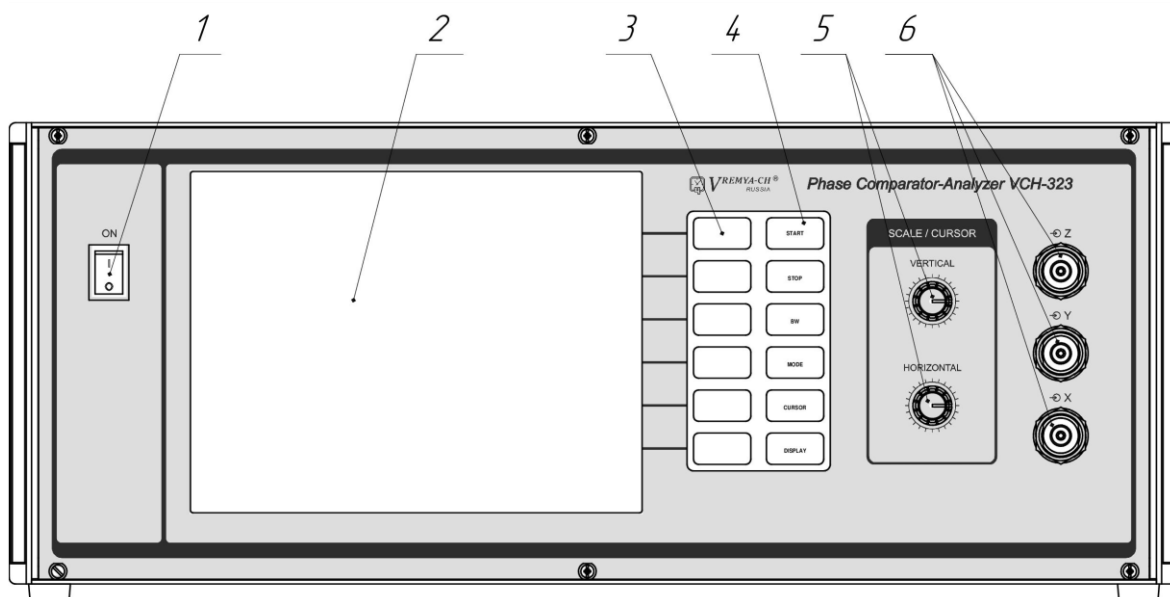
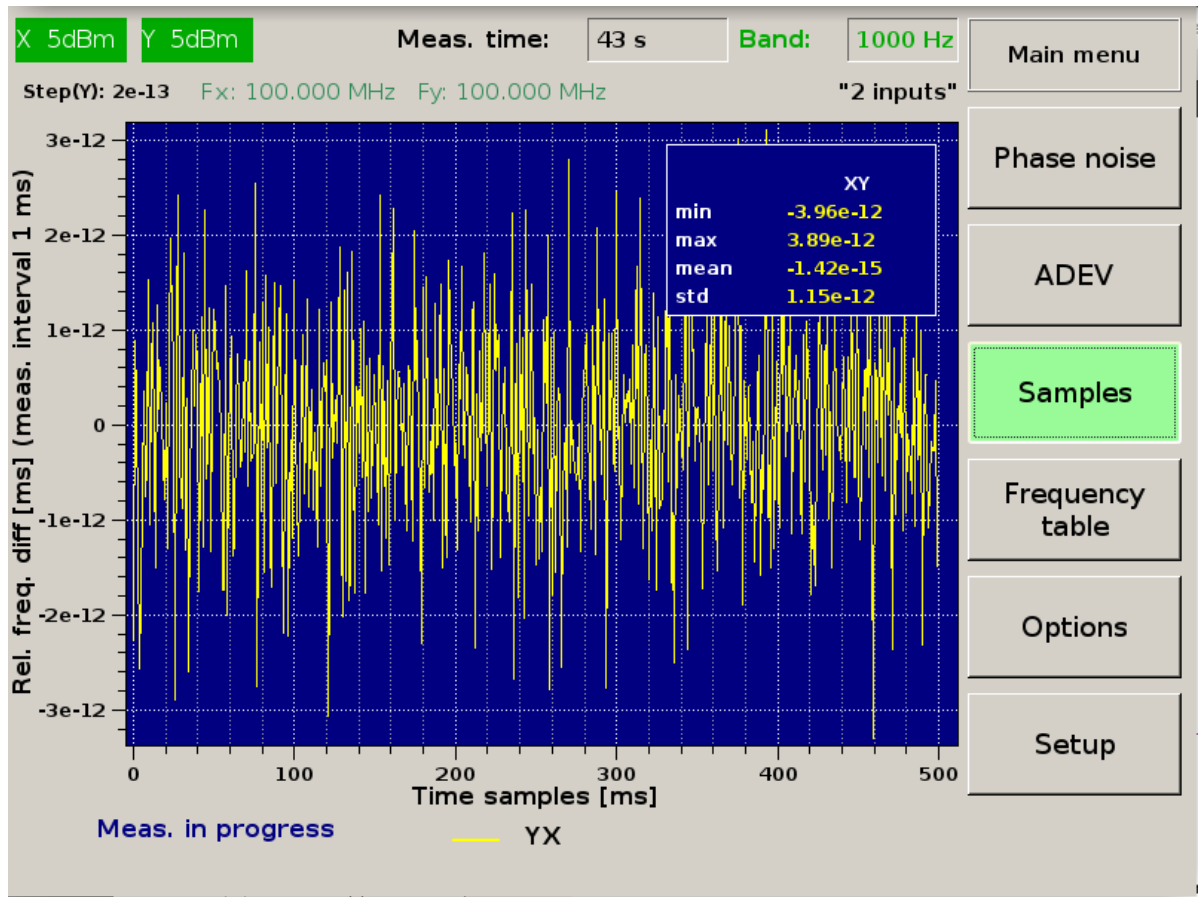

Figure 3. Controls and connectors on the front panel
Figure 10. Statistical parameters table (frequency samples case)
Controls and connectors on the front panel of the Device are shown in Figure 3. The description of the controls and connectors is given in Table 5.
Before measurements, you must select one of two possible modes by pressing the "**MODE**" button (group of control buttons pos.4 on Figure 3) and then the corresponding mode keys (group of soft keys pos. 3 on Figure 3). **Reference signal for both channels of the comparator needs to be connected to the " \perp X" port for all measurement modes.** Measurement modes are described below.
1. **"2 inputs" mode.** See the soft keys group pos. 3 on Figure 3. This mode allows to reduce the noise introduced by the device when measuring the characteristics of the frequency difference between two signals using cross-correlation processing. The signals must be connected to the " \perp X" and " \perp Y" ports. In this mode, the signal connected to the " \perp Y" is distributed to both measuring channels (Figure 2). The frequency difference instability for the analyzed signals is calculated by formula (6).
2. **"3 inputs" mode.** See the soft keys group pos. 3 on Figure 3. In this mode, the characteristics of the frequency instability are calculated using cross-correlation processing by the "three-cornered hat" method. For this method three different signals with similar frequency instability characteristics must be connected to the Device inputs. **If less than three signals are connected to the**
Running measurements. After the required measurement mode was selected, by pressing the "**START**" control button on the front panel of the Device (group of control buttons pos. 4 in Figure 3) you can start measuring the relative frequency differences of the analyzed signals. Once the "**START**" button is pressed, device parameters will be set within one minute, and after that the "**Measurement time**" field should update the number of seconds elapsed since the first data was received, and in the lower left corner label "**Meas. stopped**" should be replaced by "**Meas. in progress**".
"BW" button. By pressing the "**BW**" button (group of control buttons pos. 4 in Figure 3) you can select which frequency band phase and frequency samples are filtered in. There are four options: 1 Hz, 10 Hz, 100 Hz and a 1000 Hz band. When the 1000 Hz band is selected the interval between phase and frequency samples is 0.001 s, ADEV is calculated from the samples in the 1000 Hz band with the minimum measurement time $\tau = 0.001$ s. When the 100 Hz band is
"DISPLAY" button. By pressing the **"DISPLAY"** button (group of control buttons pos. 4 in Figure 3), you can choose which of the graphs or ADEV values in the table should be displayed on the screen. You can enable or disable the display of graphs during measurements.
"CURSOR" button. When the **"CURSOR"** button (from the control buttons group pos. 4 on Figure 3) is pressed, screen will show the corresponding menu (Figure 9). When the "Show Marker" key (from the soft keys group pos. 3 on Figure 3) is active, the graphs will show two crossing lines with vertical and horizontal values. And if the ">Marker" key (from the soft keys group pos. 3 on Figure 3: "View/Marker" button) is active, the position of the lines can be controlled by rotary encoders on the front panel of the Device (pos. 5 on Figure 3). When the "Precise" key is active, the minimal marker movement step is reduced by a factor of 10.
When the ">View" key (from the soft keys group pos. 3 on Figure 3: "View/Marker" button) is active and "Autoscale" button from the same menu is not pressed: "phase samples", "frequency samples" and "phase noise" graphs can be manually shifted and scaled using **"HORIZONTAL"** and **"VERTICAL"** rotary encoders. The duration of the displayed record depends on the
“Samples” key. See the soft keys group pos. 3 on Figure 3. When this menu item is selected one of two modes (“Frequency samples” or “Phase samples”) is activated. Samples can be chosen by pressing “Options” key (from the soft keys group pos. 3 on Figure 3). “Phase samples options” or “Frequency samples options” might be selected by pressing “More” key (from the soft keys group pos. 3 on Figure 3). When “Samples” key is initially activated, the graphs field contains statistical parameters table (min, max, mean, std) in the upper right corner (Figure 10). The table can be disabled or enabled by pressing the “Samples” key.
"Phase samples" key. See the soft keys group pos. 3 on Figure 3. When this menu item is selected the graphs of the mutual phase differences are displayed on the screen (regardless of the measurement mode). The phase differences are displayed in seconds. Example of such phase difference at t_n moment for signals at the inputs Y and X:
"Frequency samples" key. See the soft keys group pos. 3 on Figure 3. When this menu item is selected, the graphs of mutual relative frequency differences are displayed on the screen (regardless of the measurement mode). Example of a relative frequency difference for signals at the **Y** and **X** inputs:
"Option" key for phase or frequency graphs. See the soft keys group pos. 3 on Figure 3. Press the "Options" key (from the soft keys group pos. 3 on Figure 3) to enter menu that allows to choose between phase ("Phase samples") and frequency ("Frequency samples") outputs. Press the "More" key (from the
soft keys group pos. 3 on Figure 3) to enter menu that allows to save screenshots ("Save image") in a graphic file (select format by pressing the corresponding menu buttons) and to change the measurement time interval ("Measurement interval") and to make scaling ("Scale options": opens the same menu as "CURSOR" button described above). Intervals for phase measuring and time of frequency averaging can take the following values: 1 ms, 10 ms, 100 ms, 1 s for the 1000 Hz band; 10 ms, 100 ms, 1 s, 10 s for the 100 Hz band; 100 ms, 1 s, 10 s, 100 s for the 10 Hz band and 1 s, 10 s, 100 s, 1000 s for the 1 Hz band.